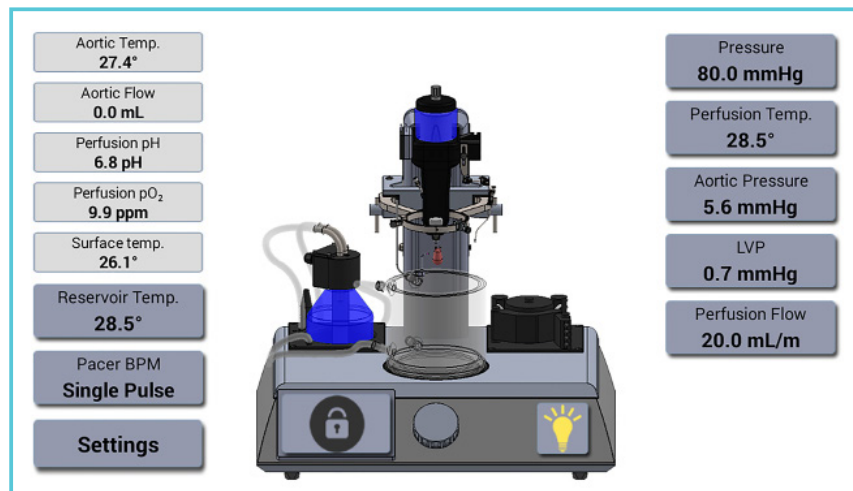

Fig.34. The blue color of the heating bottle indicate that the actual temperature is lower than the setting temperature.
- In the Main Menu the Heating Bottle will turn blue as shown in the figure below, indicating that the temperature is below the setting temperature (fig.34.).
- Add approximately 1.3 liter preheated perfusion buffer or just enough perfusion buffer to reach the overflow outlet in the Water Jacketed Buffer Reservoir (see fig.34.).